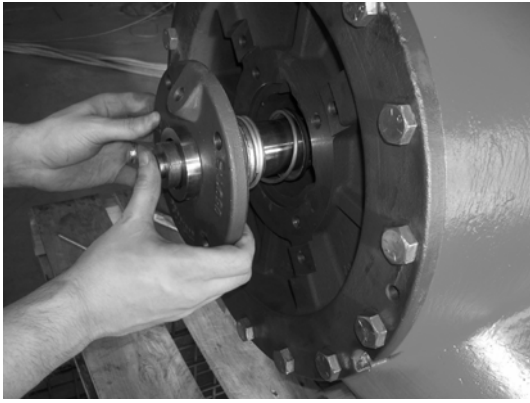

Figure 45: Installing the Gland Assembly
6. Place the gland gasket onto the gland. Grease may be used to hold the gasket in place. Slide the complete assembly over the shaft until the sleeve bottoms out onto the shaft locating shoulder. (See Figure 45.)